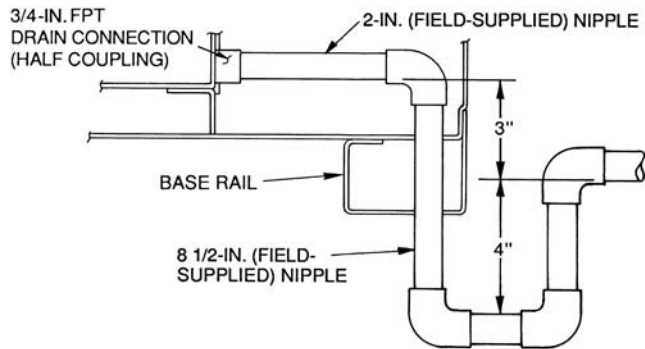

Fig. 12 — Condensate Drain Piping Details
Step 6 — Trap Condensate Drain — See Fig. 11 for drain location. One 3/4-in. half coupling is provided inside unit evaporator section for condensate drain connection. An 8 1/2-in. x 3/4-in. diameter and 2-in. x 3/4-in. diameter pipe nipple, coupled to standard 3/4-in. diameter elbows, provide a straight path down through hole in unit base rails (see Fig. 12). A trap at least 4-in. deep must be used.